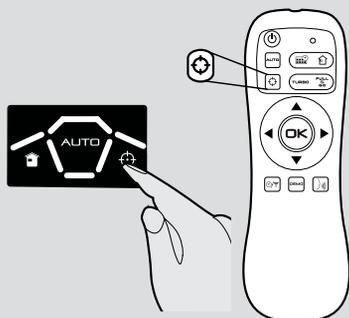

Fig.12
**You can activate the SPOT cleaning mode by: [Fig.12]**